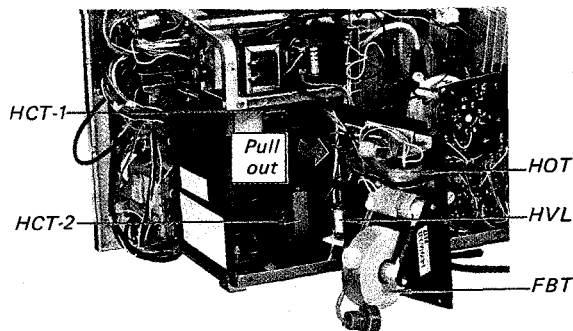

Fig. 2-34.
- 10. Pull out the rear of high voltage cage as shown in Fig. 2-34.